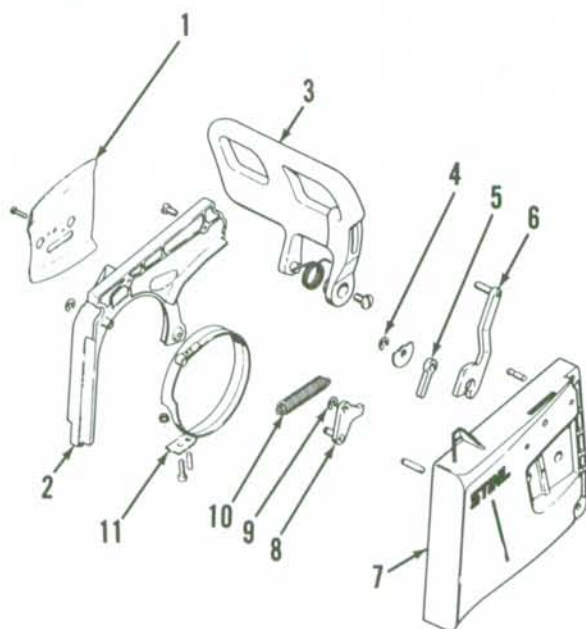

Fig. ST28—Exploded view of chain brake assembly typical of models not equipped with clutch isolating system.
On models equipped with chain brake similar to type shown in Fig. ST28, brake components can be removed after first removing sprocket cover (7) and brake cover (2).